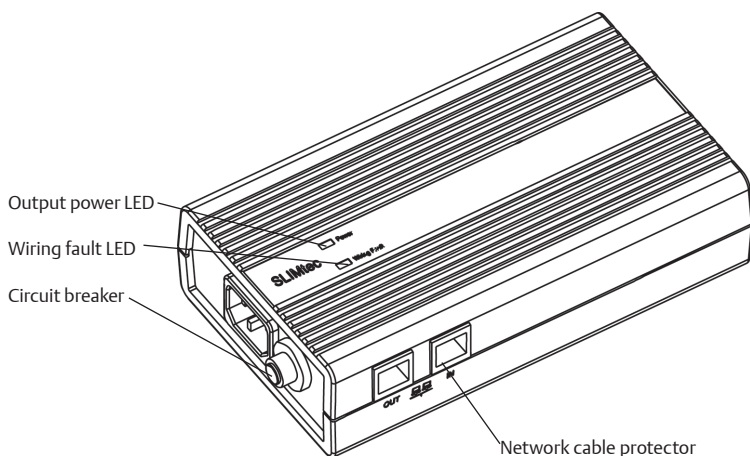

fig. 1. SLIMtec Power Filter
*NOTE: Note that the Output Power LED (green) should be illuminated and the Wiring Fault LED (red) should not remain illuminated (see figure 1). If the correct status is not indicated, first verify that AC power is available and the receptacle is correctly wired.*